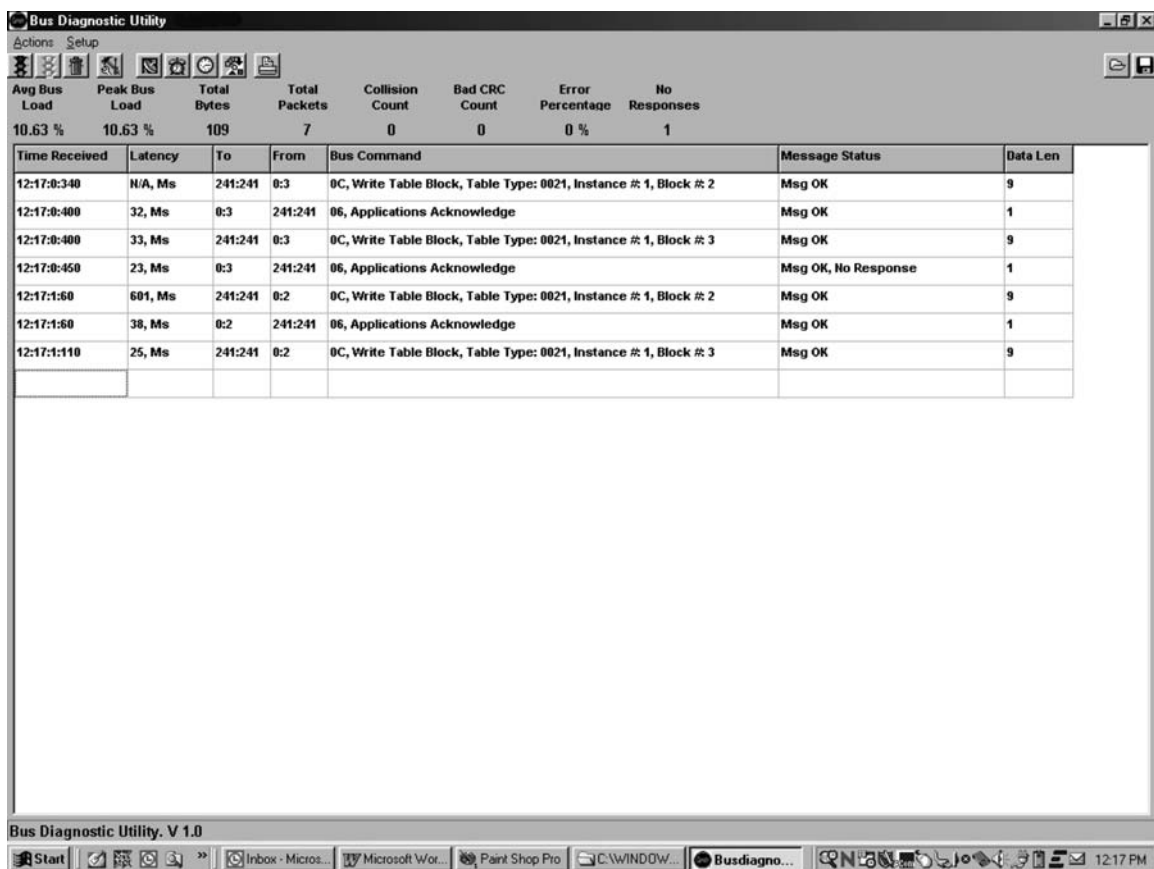

Fig. 18 — Bus Diagnostic Utility Trace
**MONITOR BUS ACTIONS** — The Monitor Bus Actions button or menu item are used to start a bus diagnostic trace. When a trace is started, the bus diagnostic utility will display every message sent to the CCN bus. See Fig. 18. These messages will show the following: source bus/element numbers, destination bus/element numbers, message length (data len), bus command sent, the time between messages (latency), the message status, and the time the message was received.